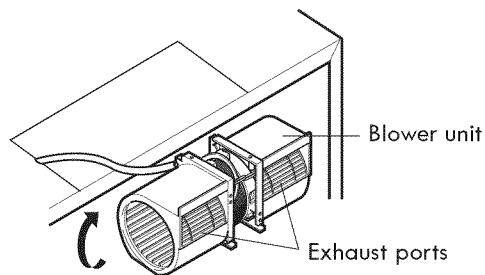

Figure 15
4. Rotate the unit so that the exhaust ports face the rear of the cabinet. See Figure 15. Before you insert blower unit, blower wire must be like Figure 15.